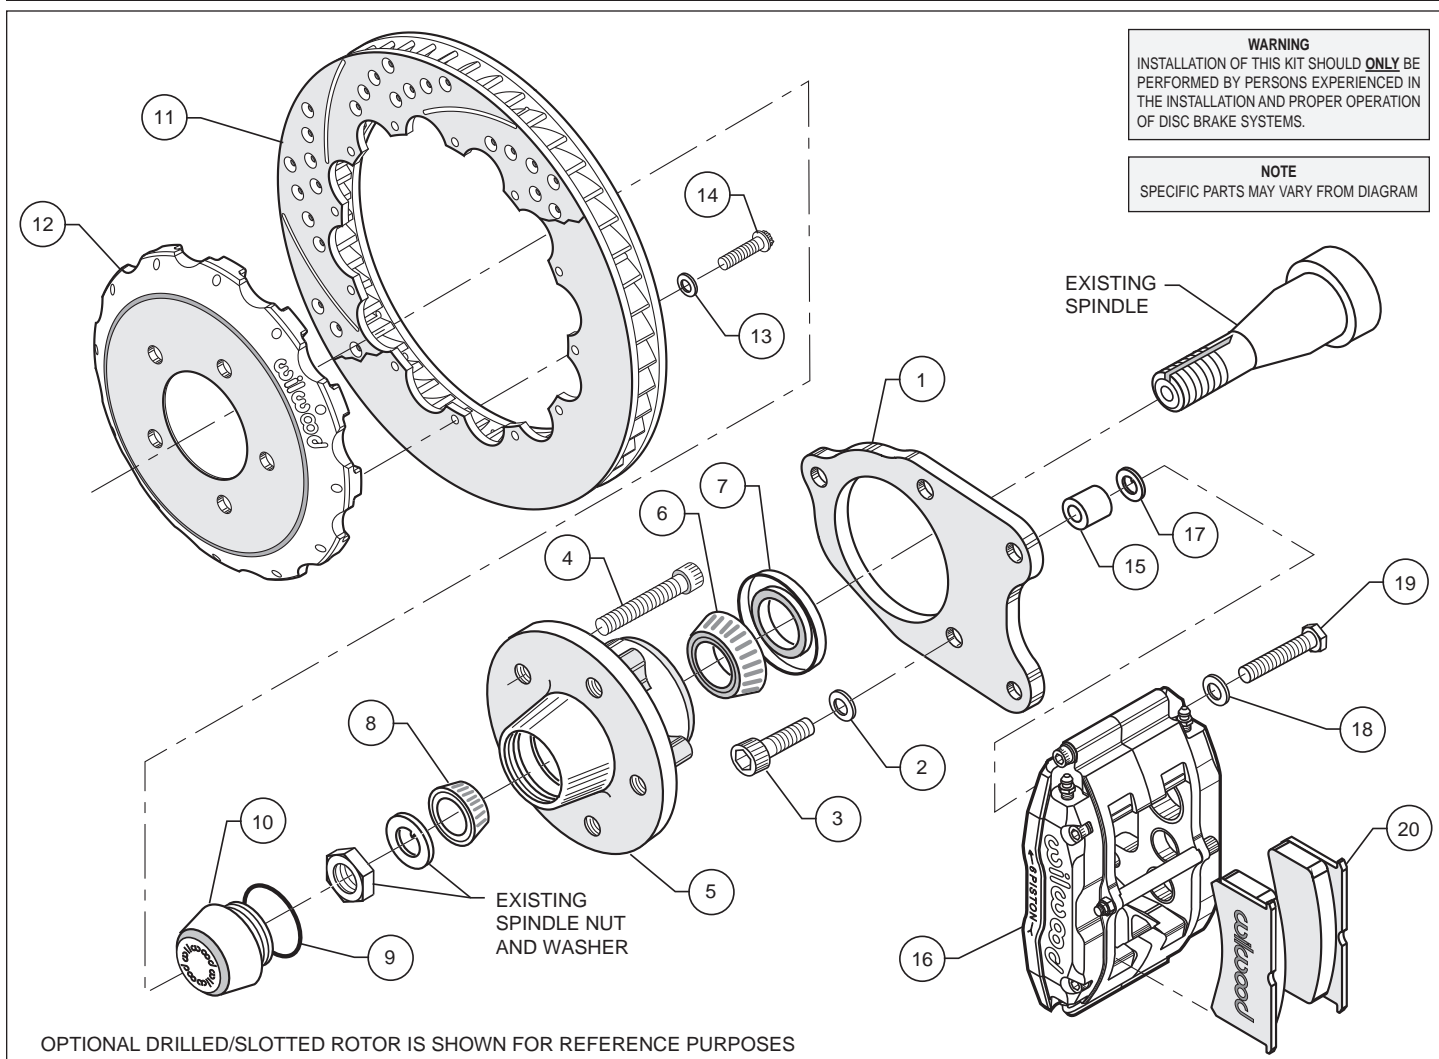
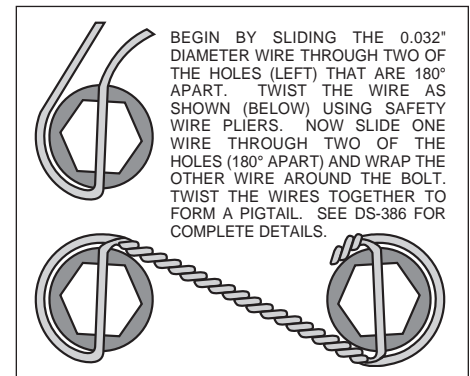

Figure 1. Typical Installation Configuration
Figure 4. Safety Wire Diagram
- Apply red *Loctite*® 271 to bolt threads (3) before assembly of the caliper mounting bracket (1). Mount bracket (1) to face of spindle using washers (2) and bolts (3). Torque bolts to 35 ft-lb. **NOTE:** Be sure the heads of the bracket clinch nuts are facing outboard.
- Install wheel studs (4) into the hub (5). Torque to 77 ft-lb.
- Pack the large inner bearing cone (6) with high temperature disc brake bearing grease (available from your local auto parts store) and install into the backside of the hub (5). Install the grease seal (7) by pressing into the backside of the hub (5).
- Pack the small outer bearing cone (8) with high temperature disc brake bearing grease and install into front of hub (5). Slide the hub with outer bearing cone (8) onto the spindle. Secure using stock washer, adjusting nut and nut locking device. Adjust bearings per Original Equipment Manufacturer (OEM) specifications.
- Install the dust cap (10) onto the hub (5). Friction created by the o-ring (9) on the dust cap (10) keeps it from unscrewing. The O.D. of the existing spindle washer may be larger than the I.D. of the dust cap (10) not allowing it to seat against the hub face. Some grinding on the washer O.D. may be necessary to clear the I.D. of the dust cap (10).
- Orient the rotor (11) and hat (12), as shown in Figure 1. Attach rotor to the hat using washers (13) and bolts (14). Using an alternating sequence, apply red *Loctite*® 271 to the threads and torque bolts to 155 in-lb. For an added measure of security, the bolts may be safety wired using standard 0.032 inch diameter stainless steel safety wire as shown in Figure 4. Please refer to Wilwood's data sheet DS-386 (available at [www.wilwood.com/Pdf/DataSheets/ds386.pdf](http://www.wilwood.com/Pdf/DataSheets/ds386.pdf)) for complete safety wire installation instructions.
- With the bleed screws pointing up, mount the caliper (16) onto the caliper bracket (1) using bolts (19), and caliper spacer (15) positioned between caliper and bracket, as shown in Figure 1. Finger tighten. View the rotor (11) through the top opening of the caliper. The rotor should be aligned in the center of the caliper. If not, adjust the caliper by using 0.030 inch thick shims (17) placed between the caliper spacer and the caliper, as shown in Figure 1. Finger tighten and recheck alignment. Apply red *Loctite*® 271 to bolt threads and torque to 55 ft-lb.
- Remove the bridge bolt from the caliper (16) and install the disc brake pads (20). Reinstall the caliper bridge bolt.